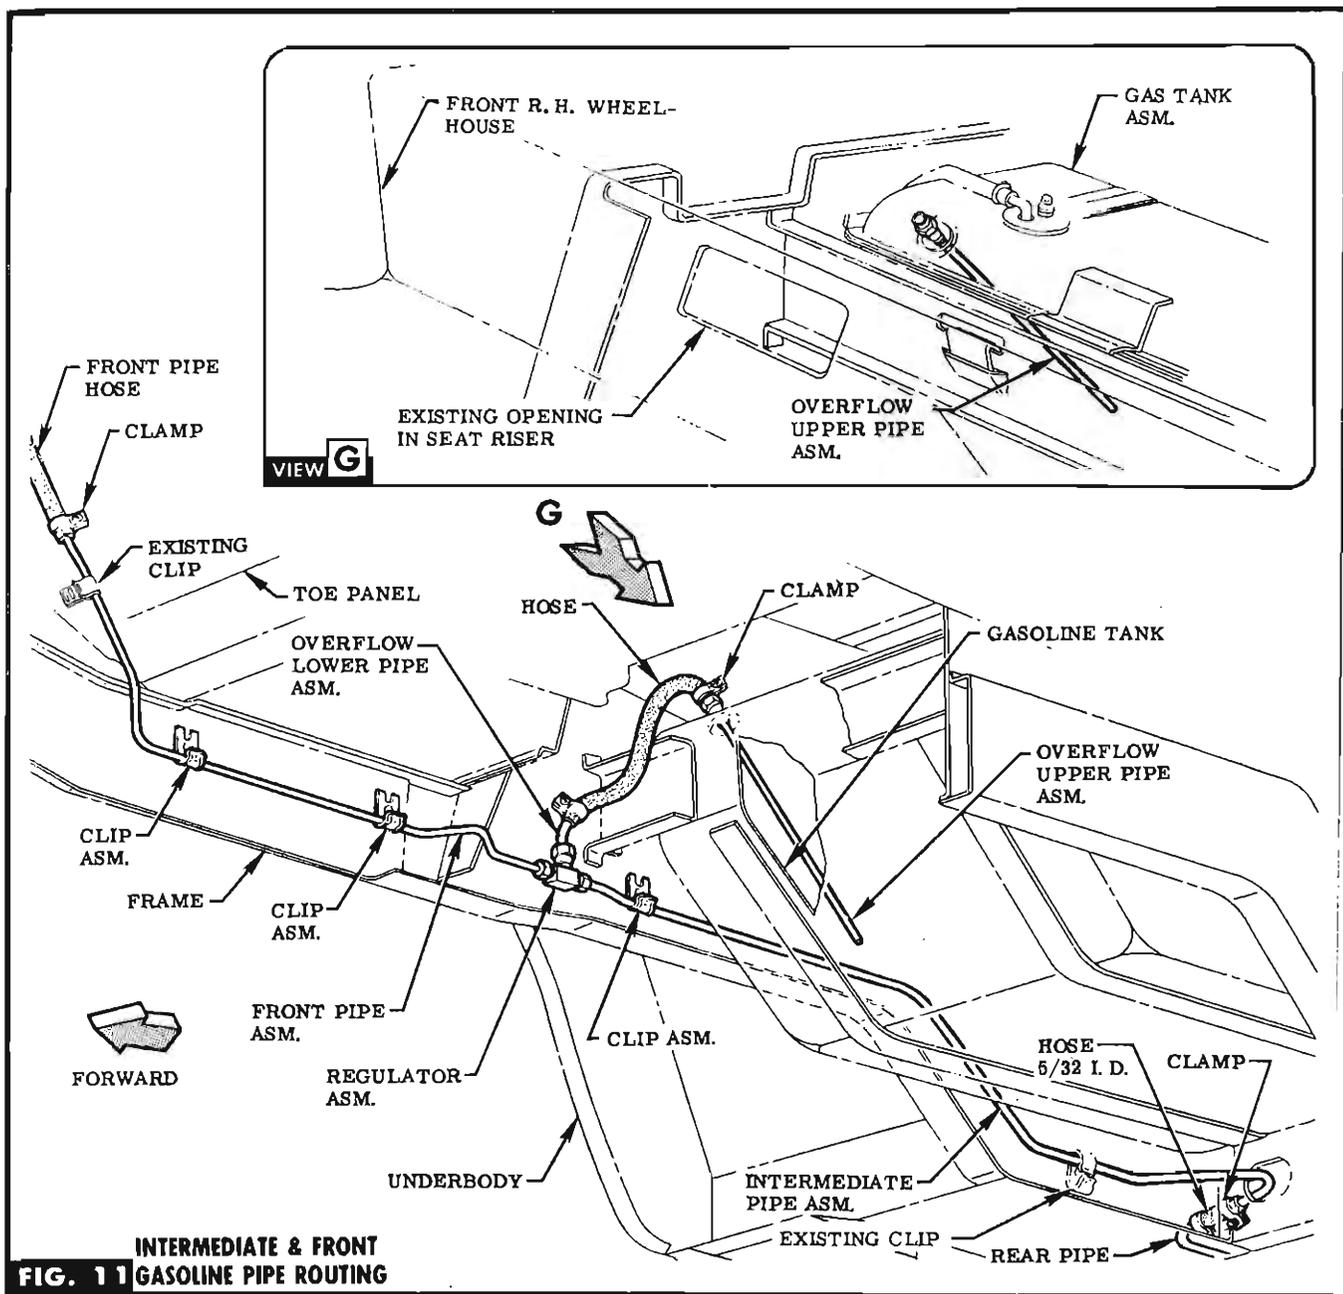

FIG. 11 INTERMEDIATE & FRONT GASOLINE PIPE ROUTING
STEP 47 ROUTE INTERMEDIATE PIPE FORWARD ALONG EXISTING PIPE, ATTACHING TO FRAME WITH EXISTING & PROVIDED CLIPS (IN BAG C). SEE FIG. 11.
STEP 48 JOIN INTERMEDIATE PIPE TO REAR PIPE WITH HOSE & CLAMPS PROVIDED (IN BAG C). SEE FIG. 11.
STEP 49 ATTACH REGULATOR TO INTERMEDIATE PIPE. SEE FIG. 11.
STEP 50 ROUTE FRONT PIPE FORWARD, ATTACHING TO FRAME WITH CLIPS PROVIDED (IN BAG C) & EXISTING CLIP ON TOE PANEL. SEE FIG. 11.
STEP 51 ATTACH FRONT PIPE TO REGULATOR. SEE FIG. 11.
STEP 52 ATTACH FRONT PIPE HOSE TO FRONT PIPE WITH CLAMP PROVIDED (IN BAG C). SEE FIG. 11.
STEP 53 ATTACH OVERFLOW LOWER PIPE TO REGULATOR. SEE FIG. 11.
STEP 56 JOIN UPPER & LOWER OVERFLOW PIPES WITH HOSE & CLAMPS PROVIDED (IN BAG C). SEE FIG. 11.